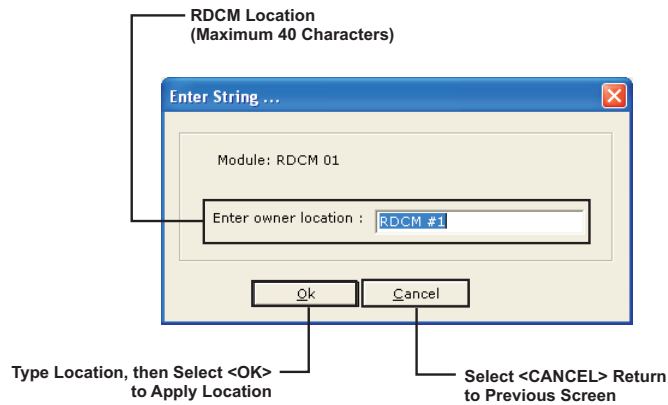

Figure 2-39. RDCM Location Screen
2. Enter the range of either RDCM(s) (1 to 15) or ATM(s) (1 to 16) being used, then click **<OK>**. Figure 2-39 displays (if ATM is being used, the dialogue in the screen reflects ATM).